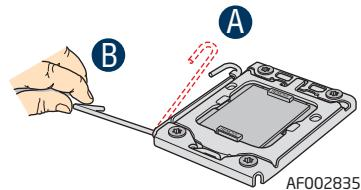

Figure 10. Lifting the Processor Socket Lever
9. Push the lever handle down and away from the socket to release it (see letter "A" in Figure 10).
10. Rotate the lever open all the way (see letter "B" in Figure 10).